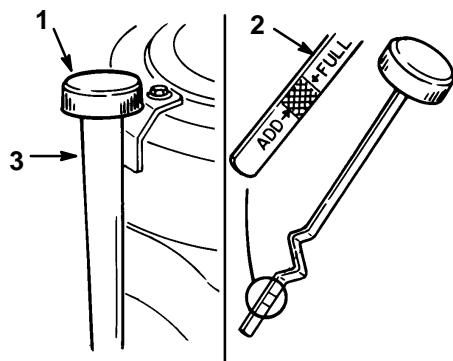

Figure 25
2. Clean around the oil dipstick (Fig. 25) so dirt cannot fall into the filler hole and damage the engine.
3. Unscrew the oil dipstick and wipe the metal end clean (Fig. 25).
4. Slide the oil dipstick fully into the filler tube, do not thread onto tube (Fig. 25). Pull the dipstick out and look at the metal end. If oil level is low, slowly pour only enough oil into the filler tube to raise the level to the "FULL" mark.
5. Slowly pour approximately 80% of the specified amount of oil specified, page 27, into the filler tube (Fig. 25). Now check the oil level; refer to Checking Oil Level, page 28. Slowly add additional oil to bring to "FULL" mark on dipstick.